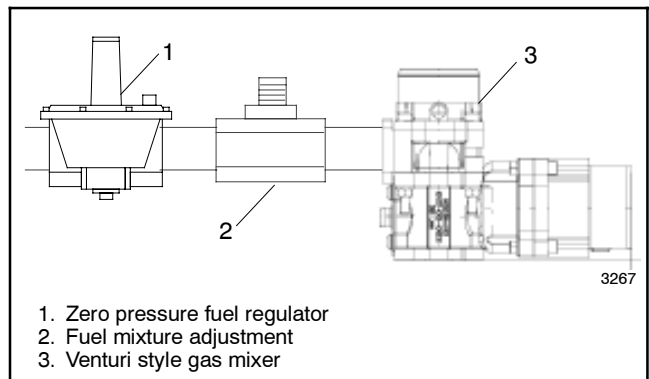
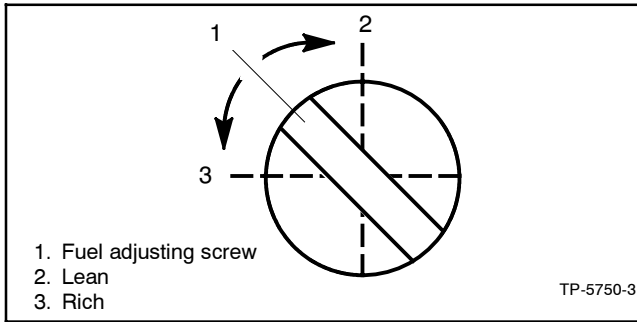

Figure 9-48 30–60 kW with Venturi Style Fuel Mixer
Figure 9-49 Fuel Mixture Adjustment, Typical
- a. **30–60 kW generator sets.** Venturi style gas mixer used with an integrated throttle body governor on 4.3 L, 5.0 L, and 5.7 L GM engines. Also similar to the IMPCO model 100 used on the 30 kW with 3.0 L GM engine. See Figure 9-48.
- Adjust the fuel mixture adjustment (see Figure 9-48 and Figure 9-49) to obtain a full load oxygen sensor voltage reading in the range specified in Figure 9-44.
- Adjust the zero pressure regulator (see Figure 9-48 and Figure 9-49) to obtain a no load oxygen sensor voltage reading in the range specified in Figure 9-44.
- Adjust the fuel regulator adjustment screw to the approximate midpoint of its adjustment range. See Figure 9-49.